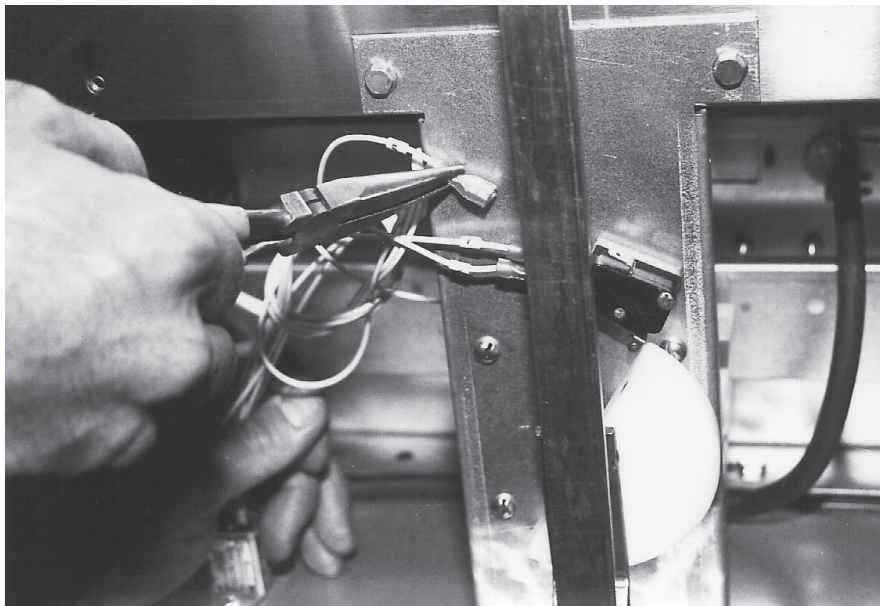

Fig. 60
3. Note and remove wiring from the cam switch. (Fig. 60)